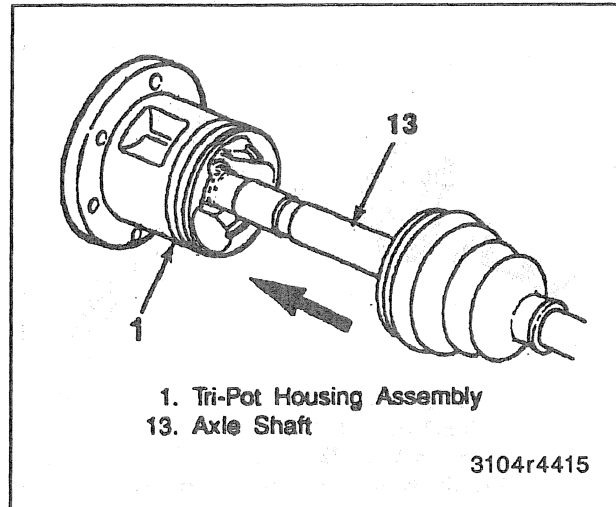
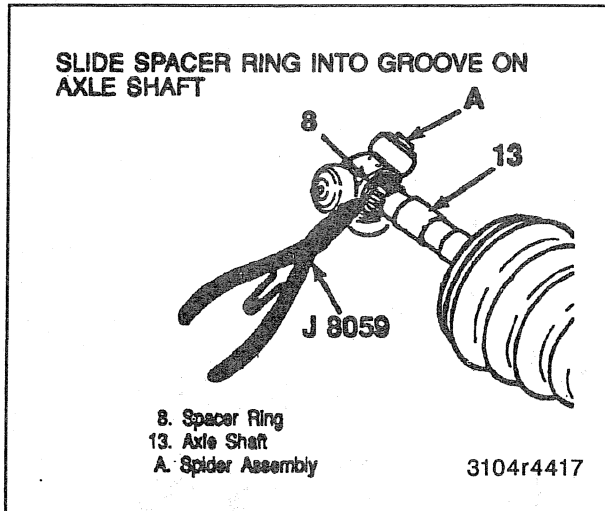
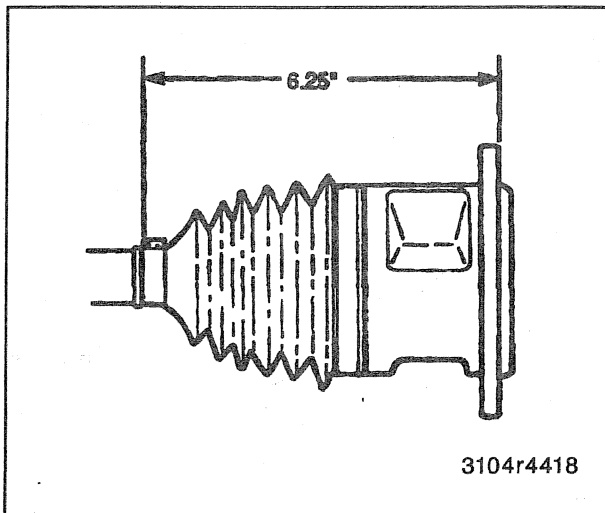

Figure 20—Installing Tripot to Housing
Figure 22—Installing Spider Assembly
Figure 23—Tripot Seal Installation Measurements
3. Spacer ring (8) on the front axle shaft (13) and beyond the second groove as shown in figure 22.
- Slide the tripot spider assembly against the spacer ring (8) and the shaft (13).
5. Slide the tripot spider (3) towards the end of the shaft (13) and reseal the spacer ring (8) in the groove on the axle (figure 22).
- A. Place approximately half of the grease provided in the seal (10) and use the remainder to repack the tripot housing (1).
6. Pinch the swage ring (9) by hand slightly to distort it into an oval shape and slide it onto the large diameter of the seal (12).
7. Slide the tripot housing (1) over the tripot spider assembly on the shaft (13) (figure 20).
8. Slide the large diameter of the seal (10) with the large swage ring (9) in place over the outside of the tripot housing (1) and locate the seal lip in the housing groove.
9. Position the tripot assembly at the proper vehicle dimension as shown in figure 23.